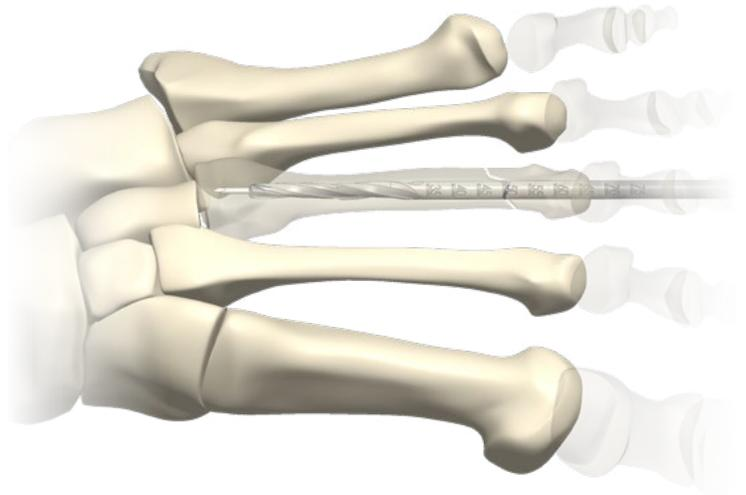

Figure 6
A. Drill by passing the cannulated reamer over the guidewire to the desired depth. Depth markings on the reamer and fluoroscopy can be used to monitor drill depth. (Figure 6)